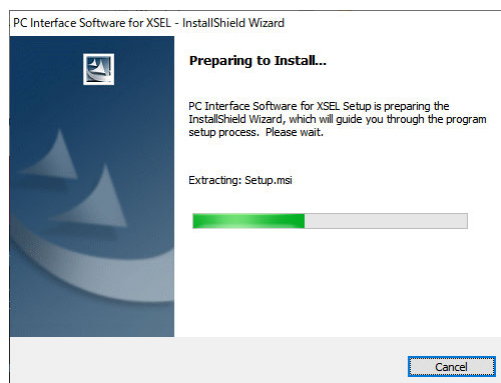

Fig. 1.7 Preparing to Install
5) Installation preparation (Fig. 1.7) begins.